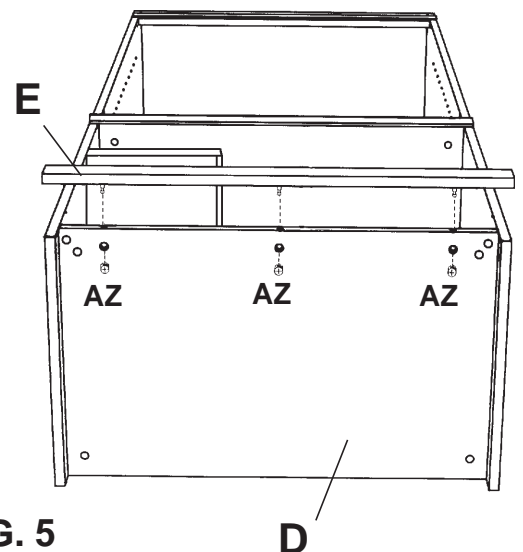

FIG. 5
- 5) Attach Base (E) to Bottom Shelf (D) with Cam Housings (AZ). See FIGURE 5.